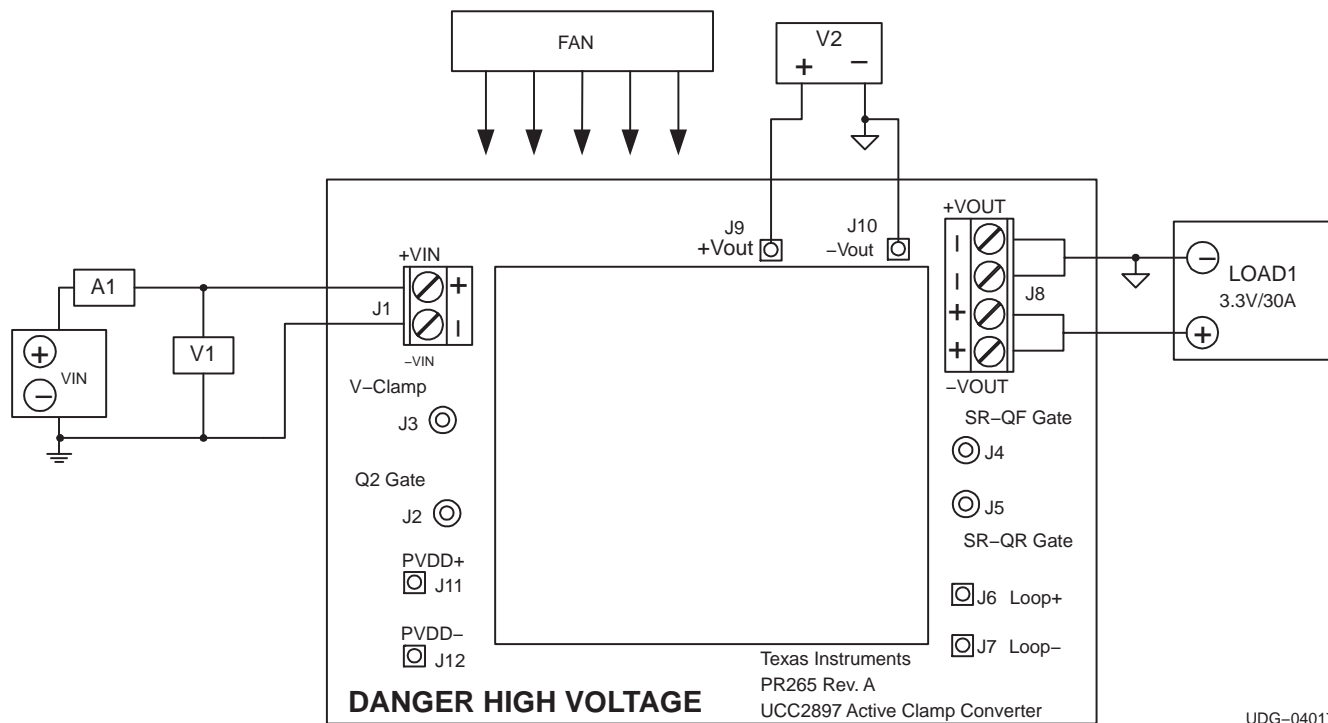

Figure 2. PR265A Recommended Test Setup
Figure 2 shows the basic test set up recommended to evaluate the UCC2897 reference design.
The input voltage shall be a variable DC source capable of supplying between 0 Vdc and 75 Vdc at no less than 3.5 Adc, and connected to J1 and A1 as shown in figure 2. For fault protection to the unit, good common practice is to limit the source current to no more than 3.5 Adc for a 36 V input. A dc ammeter, A1 should also be inserted between  $V_{IN}$  and J1 as shown in Figure 2. For highest accuracy, such as gathering efficiency data,  $V_{IN}$  should be measured directly across the input capacitor.
2. Prior to connecting the dc input source,  $V_{IN}$ , it is advisable to limit the source current from  $V_{IN}$  to 5 A maximum. Make sure  $V_{IN}$  is initially set to 0 V and connected to J1 as shown in Figure 2.
3. Connect the ammeter A1 (0 A to 10 A range) between  $V_{IN}$  and J1 as shown in Figure 2.
4. Connect voltmeter (can optionally use voltmeter from  $V_{IN}$  source if available), V1 across J1 as shown in Figure 2.
5. Connect LOAD1 to J8 as shown in Figure 2. Set LOAD1 to constant current mode to sink 0 Adc before  $V_{IN}$  is applied.
6. Connect voltmeter, V2 across J9 and J10 as shown in Figure 2.